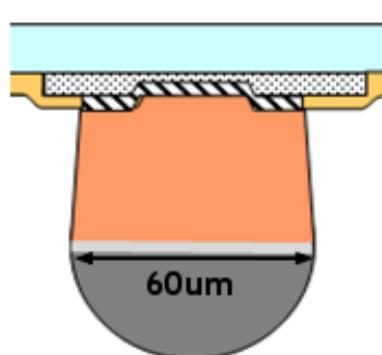

Figure 1: Cu Column and BOL design.
The Si used in this package was a 32nm extra-low-k (ELK) daisy-chain die so that open/short testing and white bump (WB) screening could be done to validate the integrity of the chip-attach (CA) process and feasibility of using Cu bumps in combination with the fragile ELK layers. The Cu column bumps on die and BOL trace design on substrate implemented design rules with open solder resist, non-solder mask defined (NSMD) pads, and non-solder-on-pad (NSOP), which all result in a lower cost substrate [5]. The schematic of Cu column and substrate trace design (BOL) is shown in **Figure 1**.